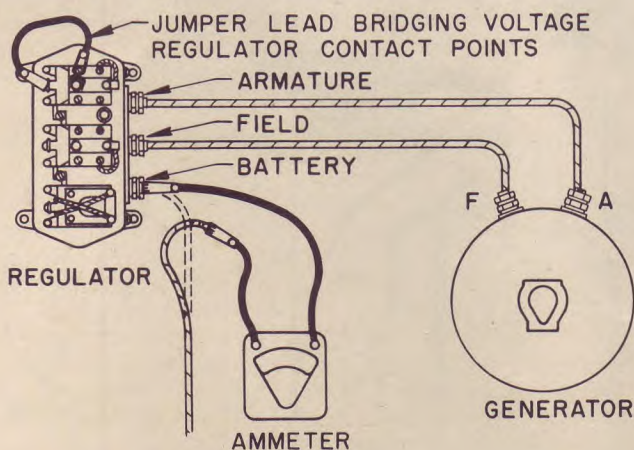

FIGURE 2-26
(3) **Jumper Lead Method.** If the regulator cover is removed and a jumper lead placed across the voltage regulator contact points as shown in Figure 2-26, the voltage regulator cannot operate. Consequently, the generator output will increase to its maximum as determined by the current regulator setting. Lights and accessories should be turned on during the test to prevent high voltage. Since this procedure requires removal of the regulator cover, it may not be used by the lower echelons of service, because they are not normally permitted to remove the regulator cover. One of the other two methods of checking the current regulator setting must therefore be used by the first and second echelons.